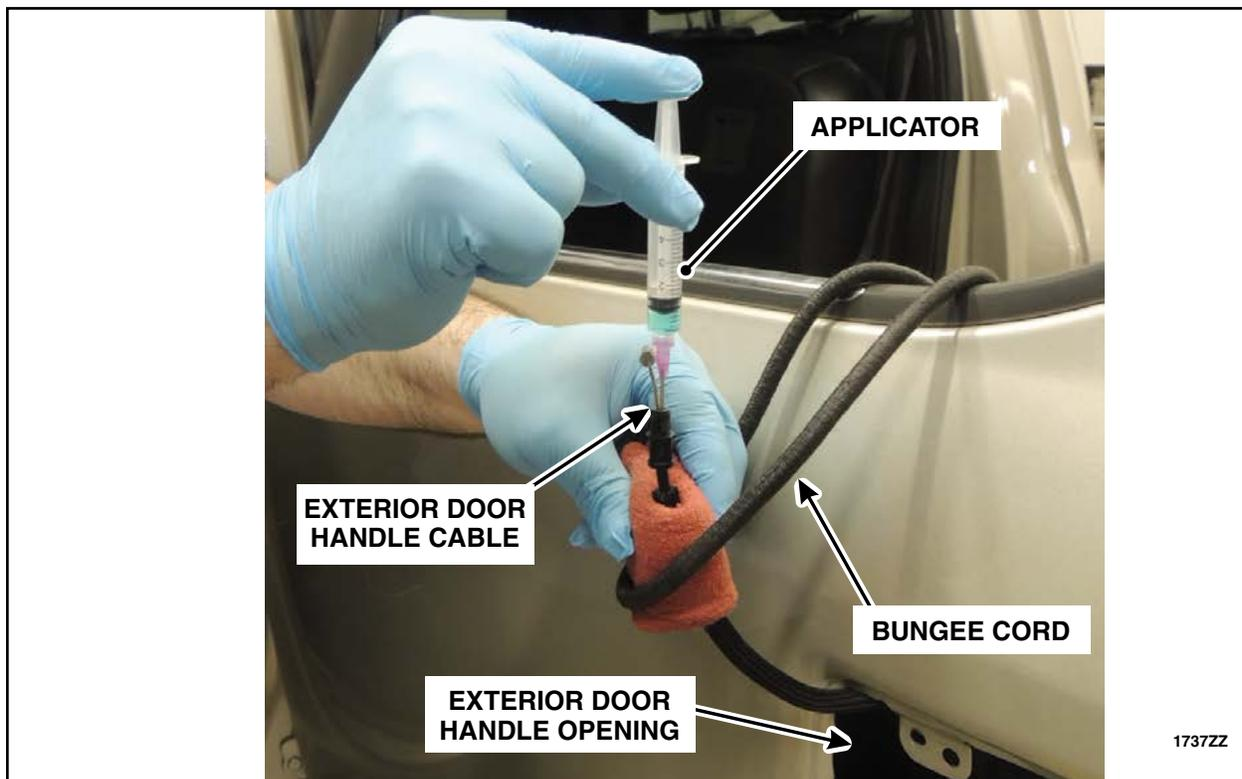

FIGURE 30
12. Remove the grease from the exterior door handle cable end and towel dry the cable to absorb any residual moisture. Using a bungee cord or other similar device secure the exterior door handle cable to the door in an upward position as shown in Figure 30, to allow the undiluted Motorcraft® Premium Windshield Wash Concentrate (ZC-32-B2) or a 99 percent methyl hydrate (methanol) product time to run down into the cable, until the exterior door handle cable is reinstalled later in this procedure.